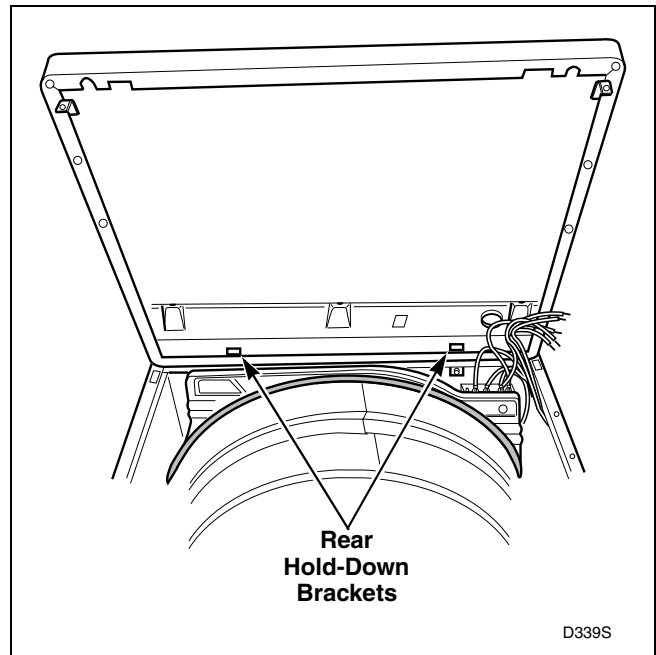

Figure 11
- g. Lift cabinet top to a vertical position by hinging it on the rear hold-down brackets. Refer to *Figure 11*.
Carefully withdraw wire harness through hole in cabinet top and lift the top off the hold-down brackets. Refer to *Figure 11*.